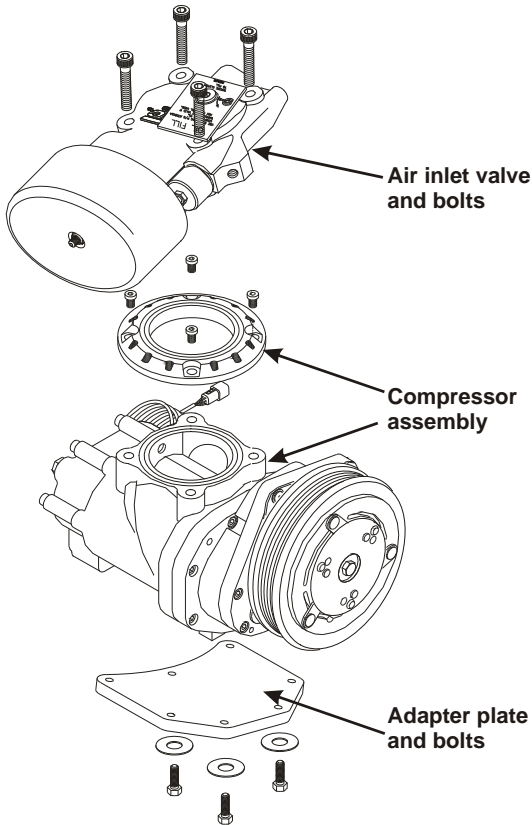

Figure 3.5
- Place the compressor with adaptor plate (Figure 3.5) in position on the main bracket and align the holes in the plate with the threaded holes in the main bracket.